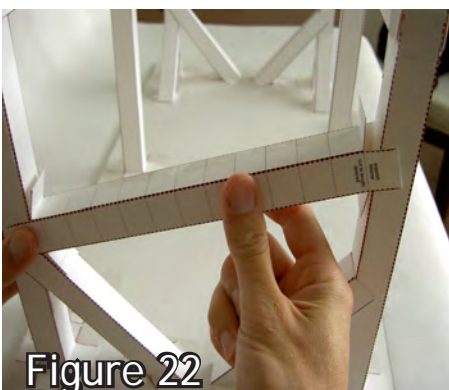
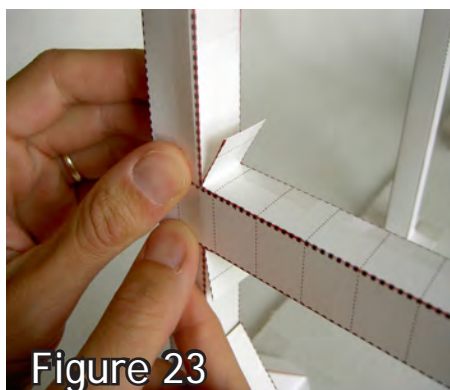

Figure 22
Figure 23
4. Holding the folded flaps pointing up and down, rotate and slide the beam in place between the two columns. (fig. 22) If it doesn't fit, lengthen the cuts and make the flaps longer. Tape the side flaps down to the column. (fig. 23) Then tape down the top and bottom flaps to secure the beam firmly in place. (fig. 24)